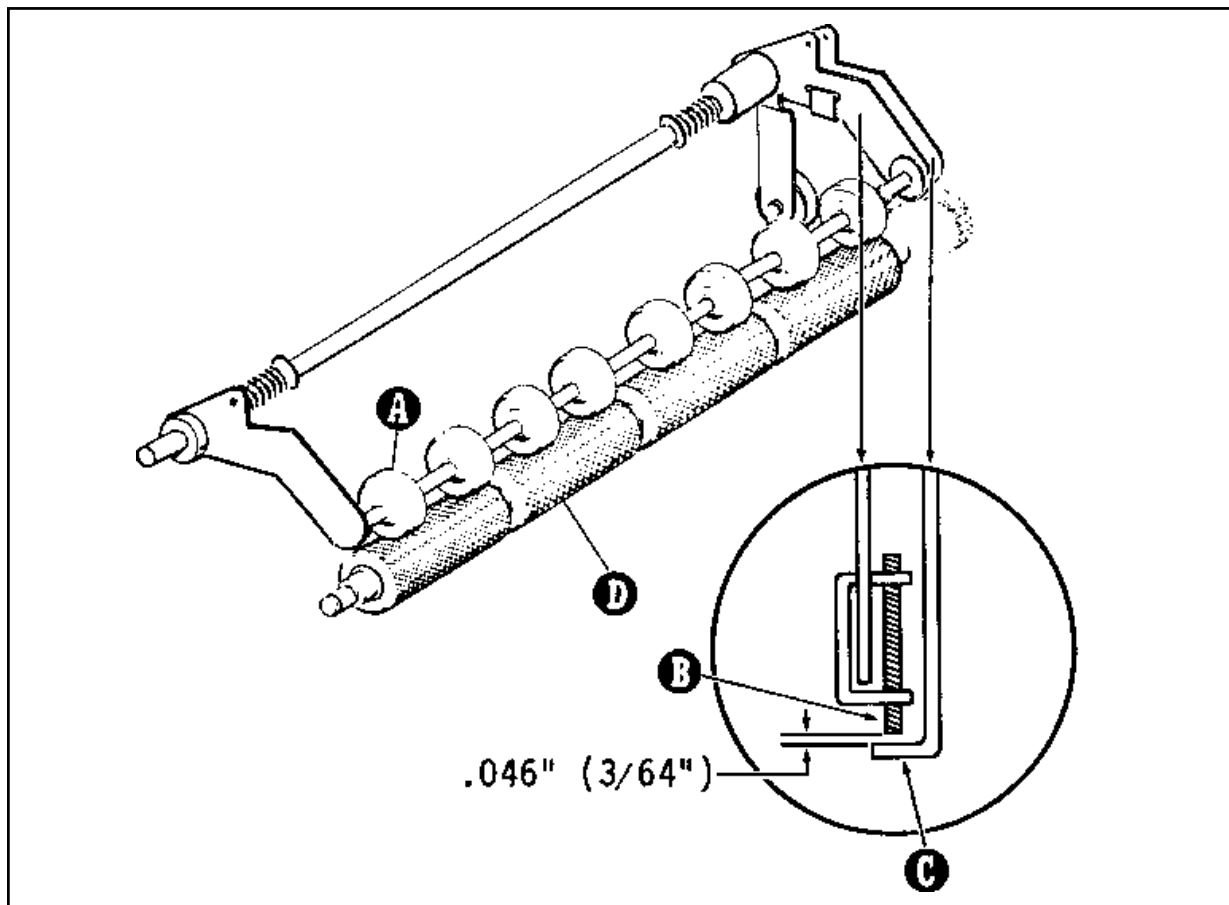

Figure 42 - Upper Forwarding Roller - 9910XCS/9910XC2
1. Check that the forwarding roller (A) revolves freely with a minimum of end-play (see Figure 42).
2. Turn the handwheel until the forwarding roller (A) is lifted.
3. Check that the tips of the adjustment screws (B) (on both the operator and non-operator sides) are flush with the underside of the lower ears on the levers (C). If not, adjust them.
4. Turn the handwheel until the forwarding roller (A) is fully down in contact with the metal forwarding roller (D), and there is a maximum clearance between the bottom of the adjustment screws (B) and the lower ears of the forwarding roller carrier levers (C).
5. Adjust the screw (B) on the non-operator side carrier lever to obtain a .046" (3/64") clearance from the lower ear (C) of the operating lever.